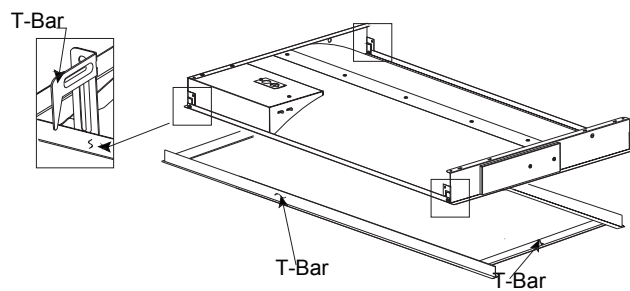

Figure 2
3. After securing the light fixture to the T-bar then secure the light fixture to the ceiling with aircraft cable or wires capable of supporting 100lbs.minimum. See Figure2.